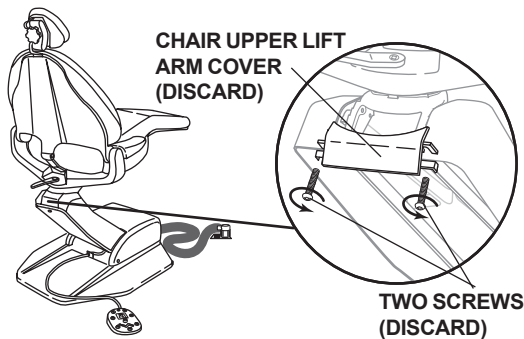

FIGURE 4
2. Remove the chair upper lift arm cover by removing the two screws. Discard both the screws and the chair upper lift arm cover (see Figure 4).